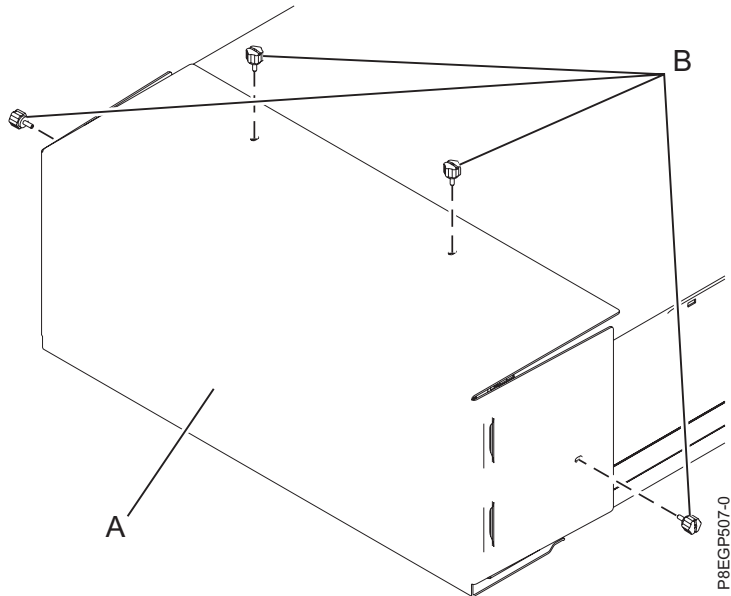

Figure 7. Removing the shipping cover
2. Remove the four thumb screws (B) that are used to secure the shipping cover (A) to the rear of the drawer, as shown in Figure 7 on page 11. Remove the shipping cover.